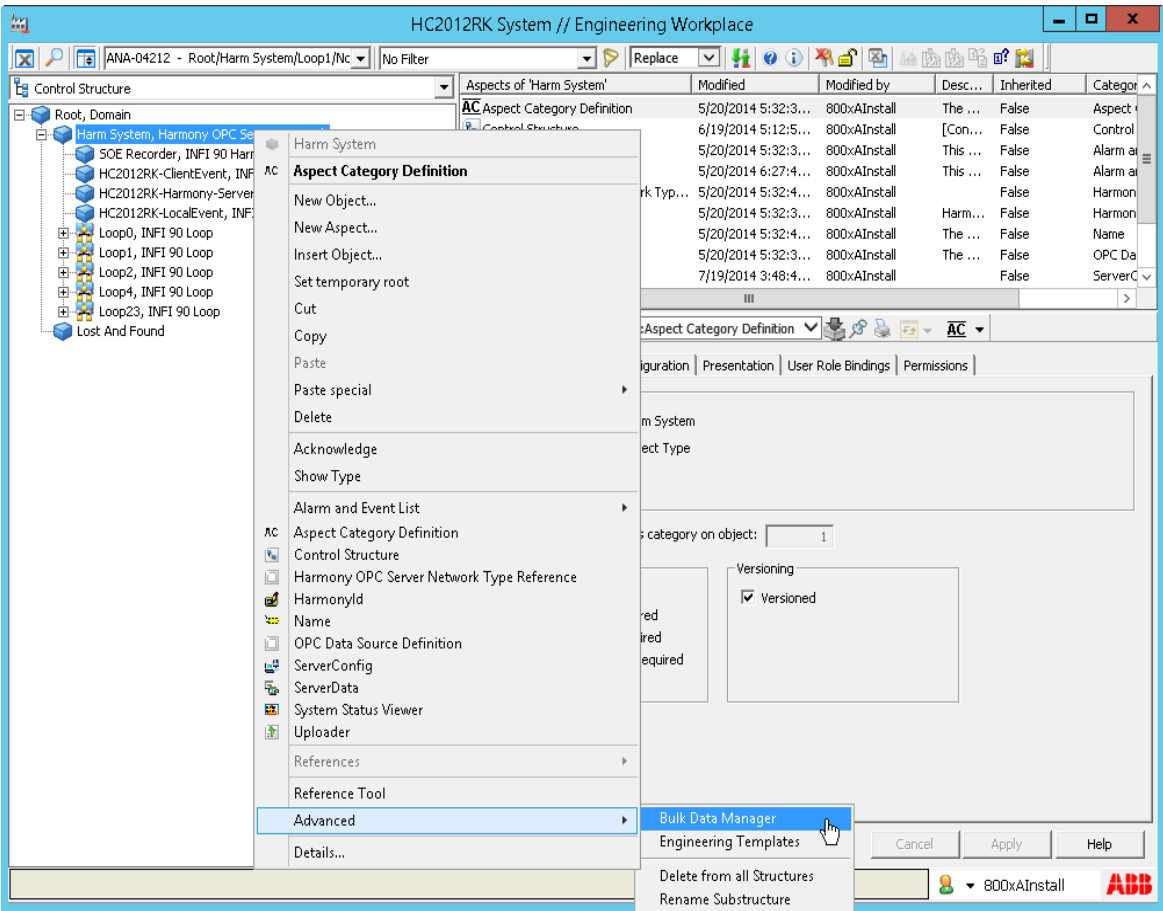
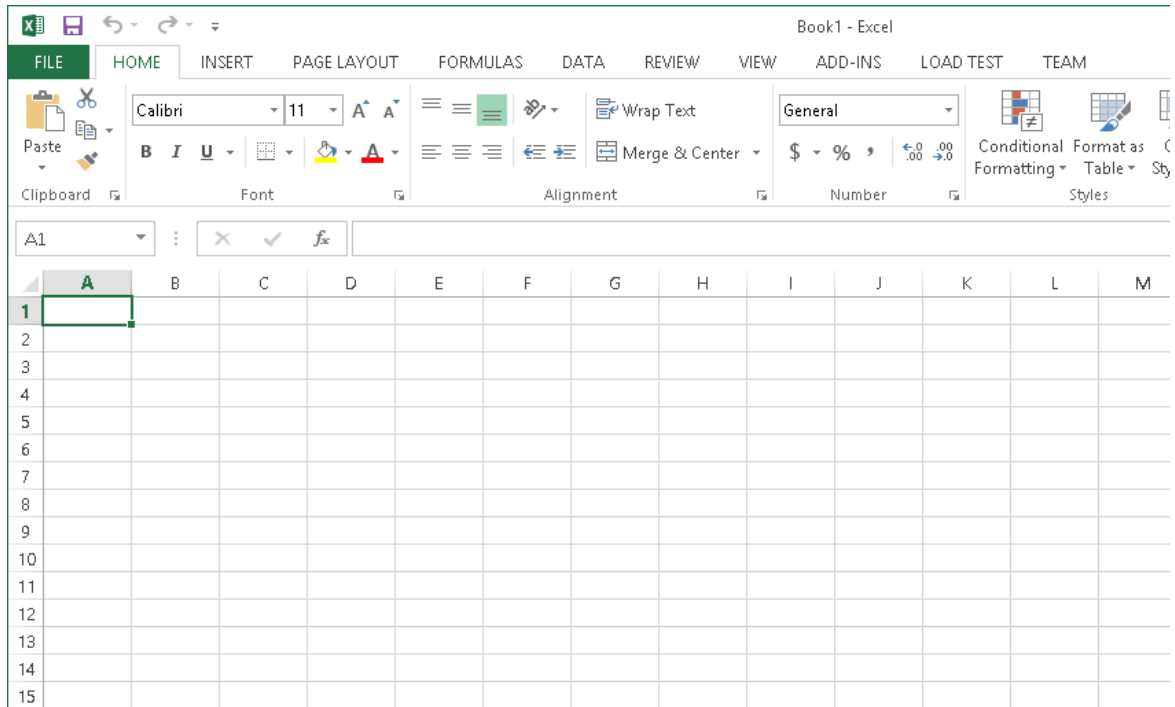

Figure 40. Selecting Bulk Data Manager from the Workplace
Figure 41. Microsoft Excel
- 1. Select **Bulk Data Manager** from the Advanced Object context menu in the Engineering Workplace. This will launch Microsoft Excel and activate the Bulk Data Manager Excel Add-In as shown in Figure 40 and Figure 41.